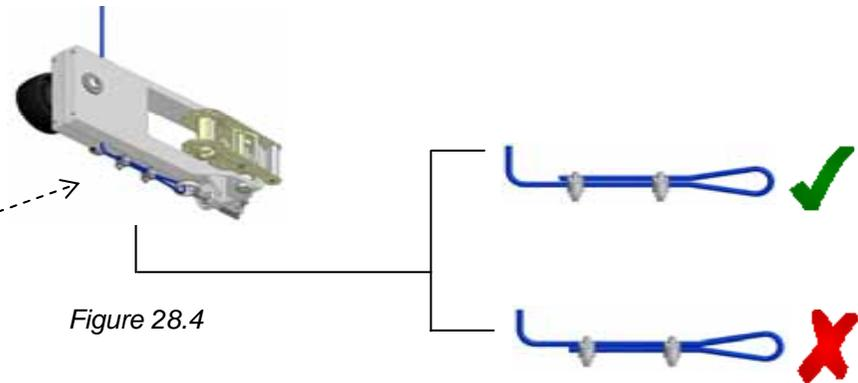

Figure 28
9.4 Replacing Section 3.3: Thread cables (H1) as indicated in Figures 28 and 29. Start at the Lower Trolley and wrap the cable around the adjusting eyebolt and secure with two 5mm Cable Grips (supplied), ensure the bridge section of the grip is against the cable under tension, (Figure 28.4).